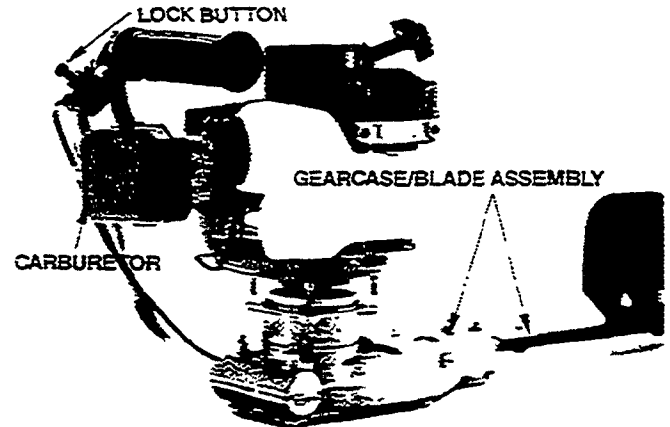

Figure 5
- Install the engine onto the gearcase/blade assembly with the carburetor pointing away from the blades as shown in (Figure 5). Assemble the washers and nuts and tighten securely with the wrench supplied in the tool kit.